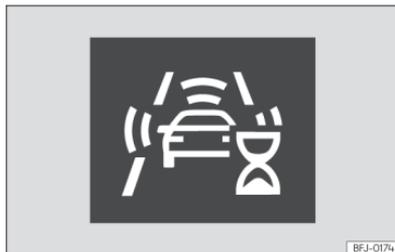

Fig. 109 On the instrument cluster screen: indication of the system's initial self-calibration.
- In the first few instants of driving after switching on the ignition, due to the system's initial auto-calibration. During this period, a status icon **»»** Fig. 109 is displayed.